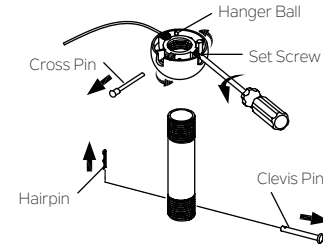

Fig. 6
Step 2. Remove the hairpin and clevis pin from the downrod assembly, retain for later use. Remove the hanger ball from the downrod assembly by loosening set screws, removing the cross pin, and twisting ball off the rod. (Fig. 6)